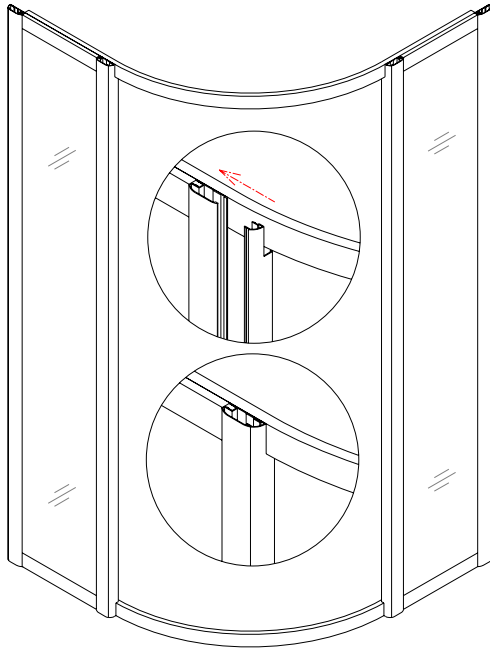

Fig 9
9. Snap in the back decorative cover and front anti-water strip-cover (fig 9)